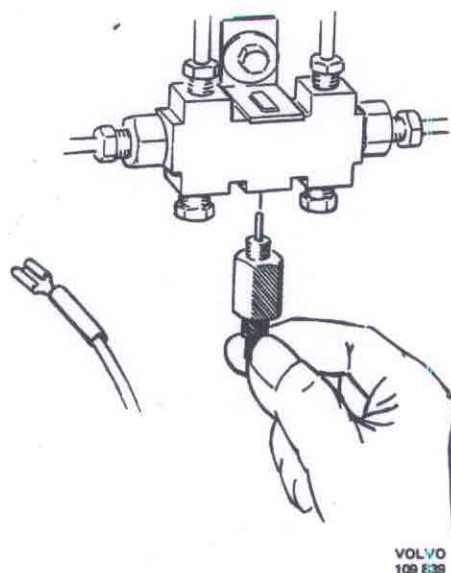

Fig. 50-9. Removing the contact
5. Open a bleeder nipple. Turn the ignition key and check that the warning lamp goes on when the parking brake is applied. Release the parking brake. Carefully apply the service brakes until the warning lamp goes on. If it does not, change the contact, see Fig. 50-9.
NOTE! Disconnect the electric cable and screw out the contact, see Fig. 50-9, so that the warning valve returns to normal position. Screw in the contact carefully (approx. 15 Nm = 1.5 kpm = 11 lbft).